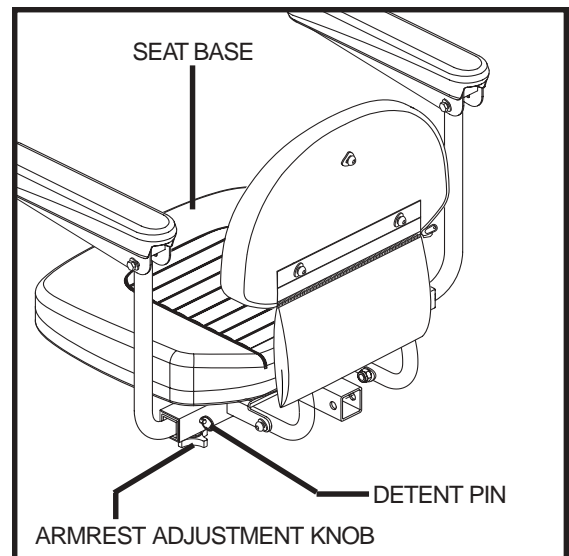

Figure 18. Seat Adjustments
1. Loosen the armrest adjustment knobs. **See figure 18.**